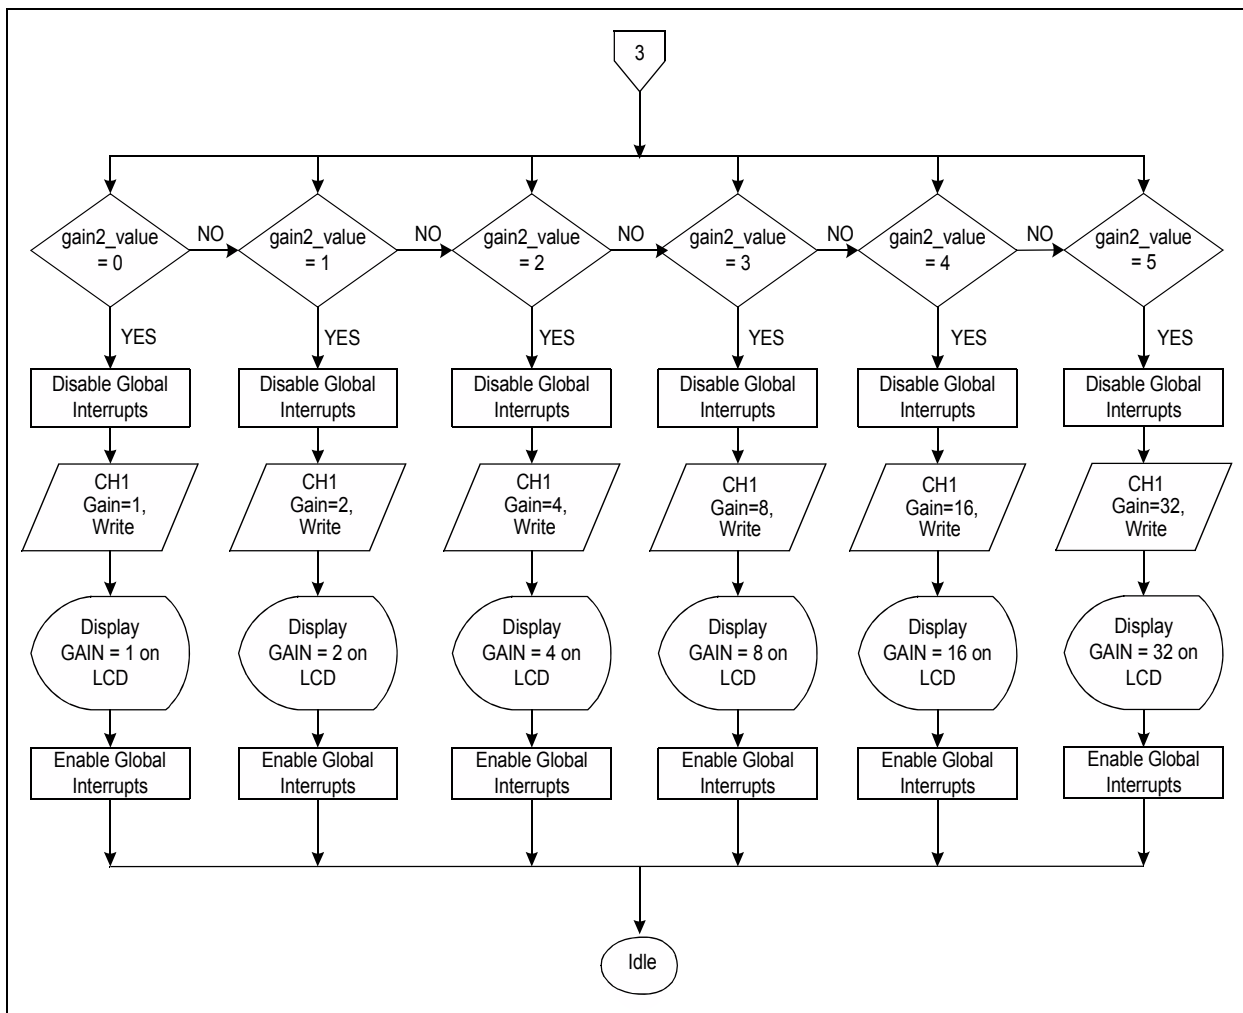

FIGURE 4-4: Key Press Routine to Configure Gain of Channel CH1.
- Channel CH1 Gain switching routines (see Figure 4-4)